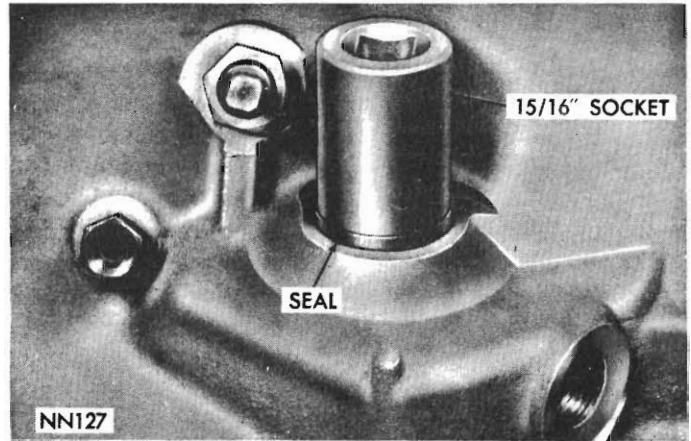

Fig. 43 - Installing valve body manual lever shaft oil seal
(8) Withdraw accumulator piston from the transmission case. Inspect piston for scoring, and rings for wear or breakage. Replace as required.
(9) If valve body manual lever shaft seal requires replacement, drive it out of the case with a punch.
(10) Drive a new seal into the case with a 15/16 inch socket and hammer (Fig. 43).